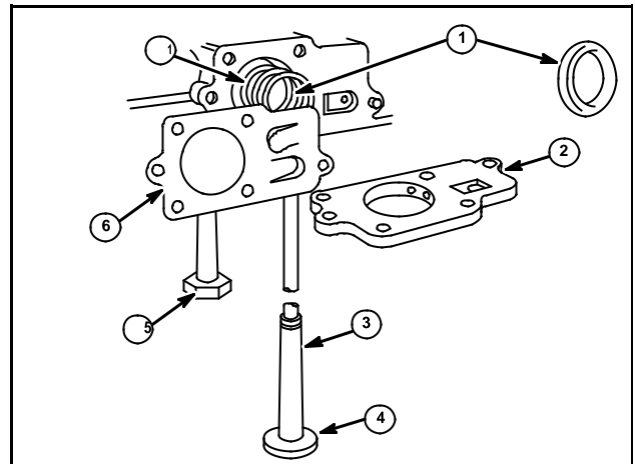

Fig. 77
1. Smooth side of cup (1) must rest against diaphragm (6), Fig. 77. This prevents spring (1) from cutting diaphragm.
2. When installing pump cover (2), tighten screws evenly in staggered sequence to ensure a good seal.
3. Inspect all sealing surfaces for nicks or damages and repair or replace as required. Long pump pipe (3), bottom housing (4), short carburetor pipe (5), Fig. 77.